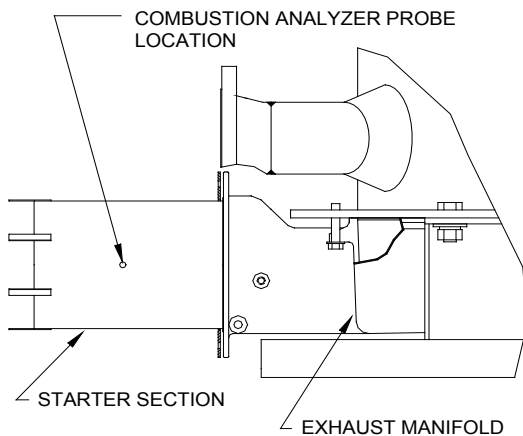

Figure 4.2
1. If the unit has been installed using the recommended AL29-4C vent, there will be a 3/8" hole, in the center of the starter section (Part #123679). The outer vent section, that covers the vent section connections must be loosened and slid down to uncover the hole (see Fig. 4.2)